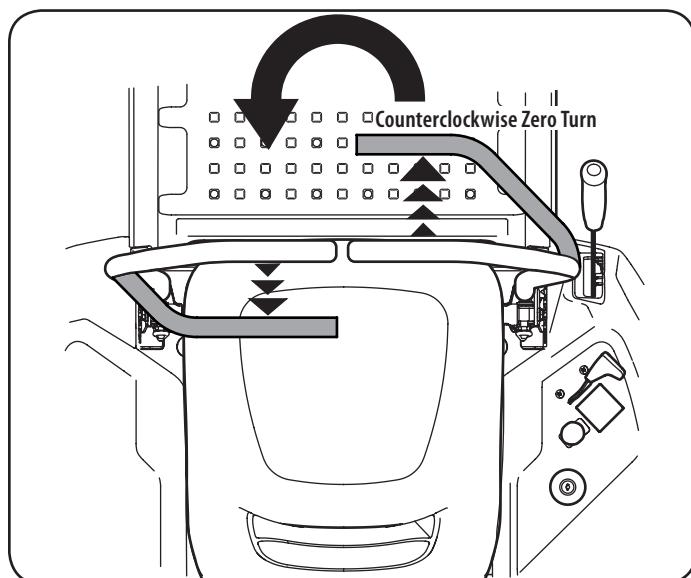

Figure 18
3. To turn counterclockwise, move the right control lever forward while simultaneously moving the left control lever rearward. See "Figure 18".